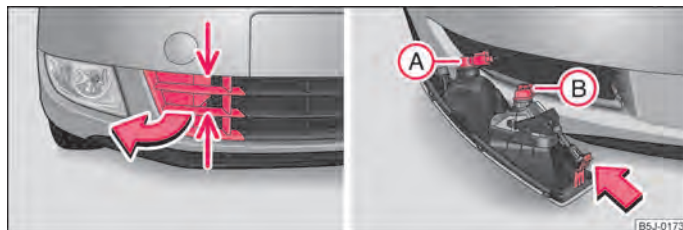

Fig. 161 Front bumper: Protective grille/removing the fog light
- Grasp the grille at the points marked with the arrows ⇒ fig. 161 - left and take it out.
- Guide your hand into the opening in which the grille was located and press the spring bolt ⇒ fig. 161 - right.
- Turn the socket (A) with the bulb for daylight driving light or the socket (B) with the bulb of the fog light to the left up to stop and take it out.